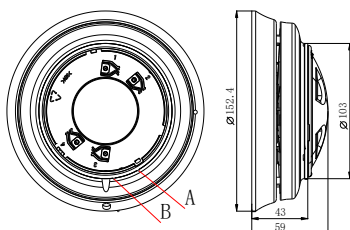

Fig. 1
Terminals of the sounder base are shown in Fig. 1.
- If the sounder base comes with a cover, align the orientation mark on the cover to mark A of the sounder base (Fig. 1), and rotate the cover clockwise to B. If it's used as detector base, remove the cover and install the detector on it with the same method.